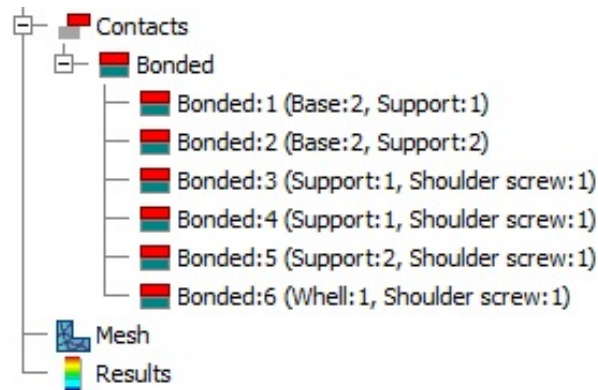

Figure 18-71 The **Bonded** node under the **Contacts** node
2. Expand the **Bonded** sub-node under the **Contacts** node in the Design tree; the automatically generated contacts are displayed, as shown in Figure 18-71.